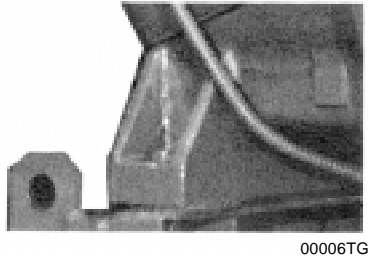

FIG. 3 – COMPRESSOR MOUNTING PAD
The compressor(s) are mounted on four (4) isolator pads (one under each compressor foot). (See Fig. 3.) The mounting bolts are not to be loosened or adjusted at installation.